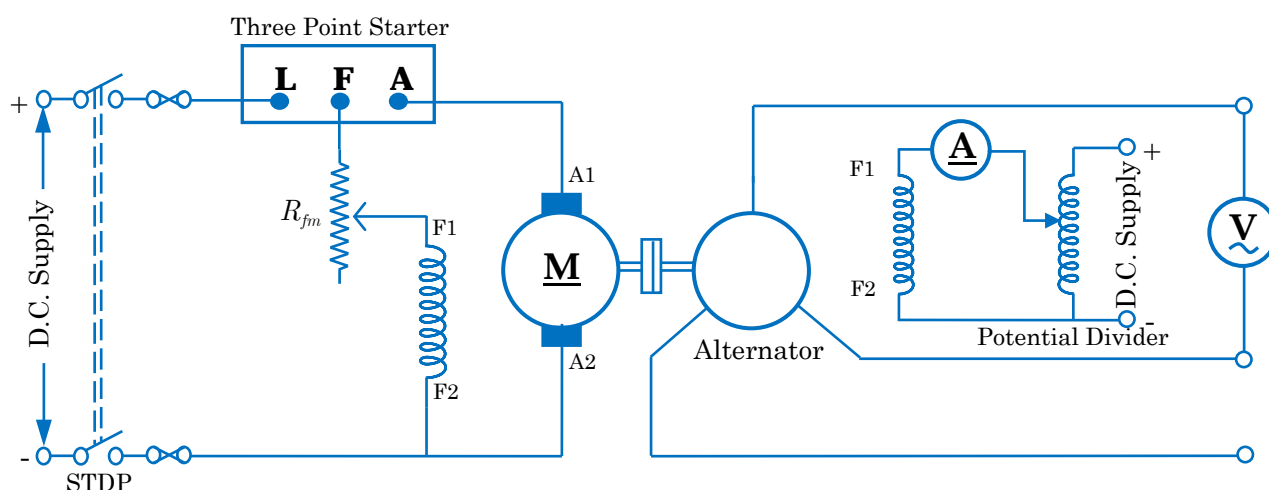

FIG 1 : EXPERIMENTAL SET-UP FOR PERFORMING OPEN CIRCUIT TEST
- 1) Connect the circuit as shown in Fig. 1.